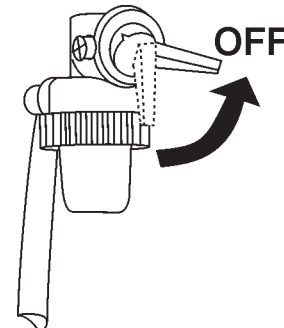

Figure 24. Engine Fuel Valve Lever (OFF Position)
- Place the engine **fuel valve lever** (Figure 24) to the "OFF" position."